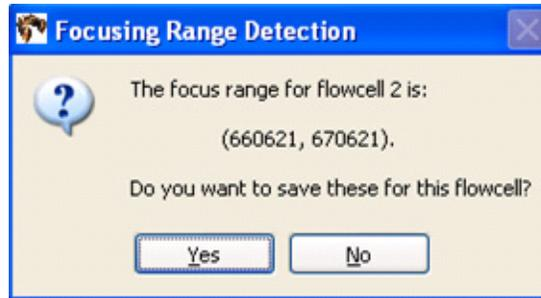

Figure 38 Confirm that you want to replace the local settings file.
5. When the Imager is done, a dialog appears (see Figure 38 on page 50). Click **Yes** if you want to replace the values in the local settings file. Click **No** if you want the Imager to discard the newly calculated focus range.